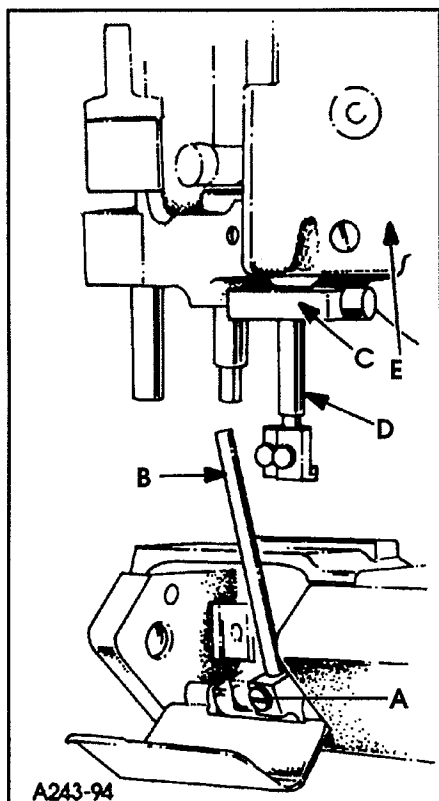
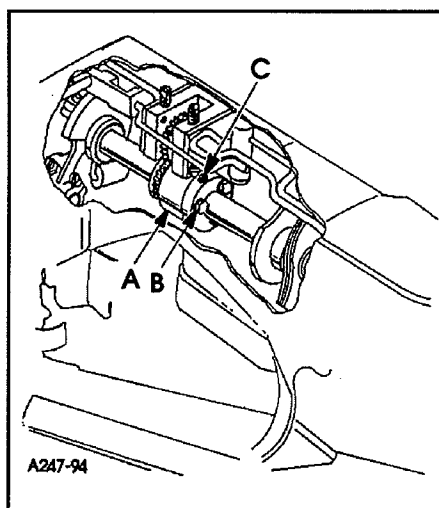

FIG. 2
FIG. 3
To synchronize the machine, remove the needles, presser foot, throat plate, feed dogs and upper feed roller mechanism. Rotate handwheel in the operating direction until the needle bar is at the bottom of its stroke and just begins its upward travel. Loosen screw (A, Fig. 2) and remove the looper for the left hand needle from the looper holder. Insert a straight steel rod (B) $5/32"$ (3.4mm) or $11/64"$ (4.3mm) diameter by $2-1/2"$ (63.5mm) long into looper holder and retighten screw (A). It may be necessary to reposition the looper holder so that the rod (B) will be in a vertical position when at its farthest travel to the right. Rotate the handwheel until the rod is at extreme left, reinstall the throat plate. Turn the handwheel in the operating direction, with needle bar rising until rod (B) comes in contact with the edge of the throat plate. At this point, clamp Union Special timing gauge No. 21225H (C) around the needle bar (D), flush against the underside of the machine casting (E). Rotate handwheel in the opposite direction until either the gauge contacts the machine casting on the up stroke of the needle bar or the rod contacts the edge of the throat plate. Maximum allowable clearance between gauge and casting or rod and throat plate is $.005"$ (.1mm)
Both ends of the adjustable split coupling are secured to the crankshaft and main shaft by spot screws and set screws. On the main shaft end of the coupling (A, Fig. 3) three screws (B) thread horizontally through the coupling. The holes in the main shaft end of the coupling are larger than the diameter of the screws, permitting several degrees of rotation in either direction to properly synchronize the needle and looper. Loosen the three horizontal clamp screws (B, Fig. 3). With rod (B, Fig. 2) at its farthest position to the left, snug the uppermost horizontal clamp screw enough to hold coupling (A, Fig. 3) in position. If the handwheel is turned in reverse of operating direction and gauge (C, Fig. 2) on needle bar (D) contacts the machine casting (E) before rod (B) contacts the edge of the throat plate, loosen horizontal clamp screw (B, Fig. 3) which was snug, while holding the coupling in place with an Allen wrench in set screw (C). Rotate the handwheel slightly in reverse of operating direction, snug the uppermost horizontal clamp screw (B), recheck synchronization. If the handwheel is turned in reverse of operating direction and the rod contacts the edge of the throat plate before the clamp gauge contacts the machine casting, adjust as before, except turn the handwheel slightly in the operating direction. Use shim stock to insure no more than $.005"$ (.1mm) exists between gauge and casting or between rod and throat plate, in both the operating and reverse directions of the handwheel. When this setting has been made, tighten the three horizontal clamp screws (B, Fig. 3) securely, and recheck both clearance points with $.005"$ (.1mm) shim gauge to assure no slippage occurred while tightening the screws.